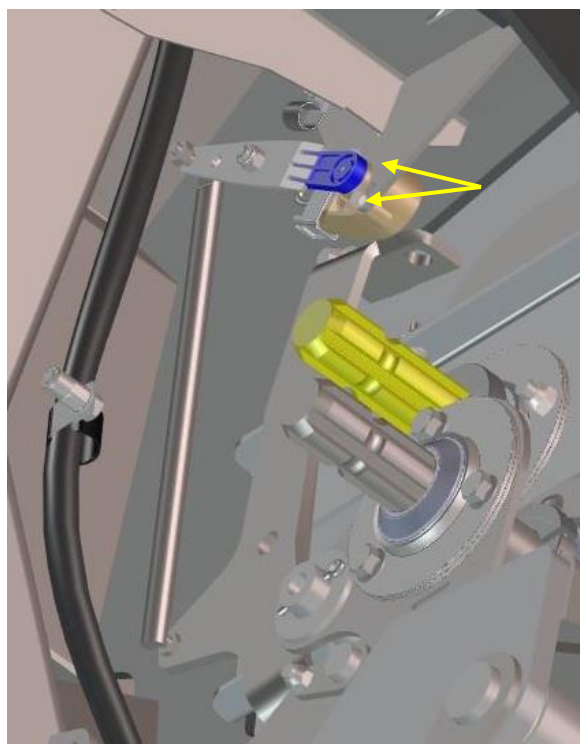

Figure 1
1. The suspended subframe uses air bags to provide the suspension. The pressure in the suspension air bags must be the same as the pressure in the rest of the system, therefore the valve on the airlines for the suspension system should remain open. The sensors are mounted on the subframe. They are attached with 2 bolts. Figure 1